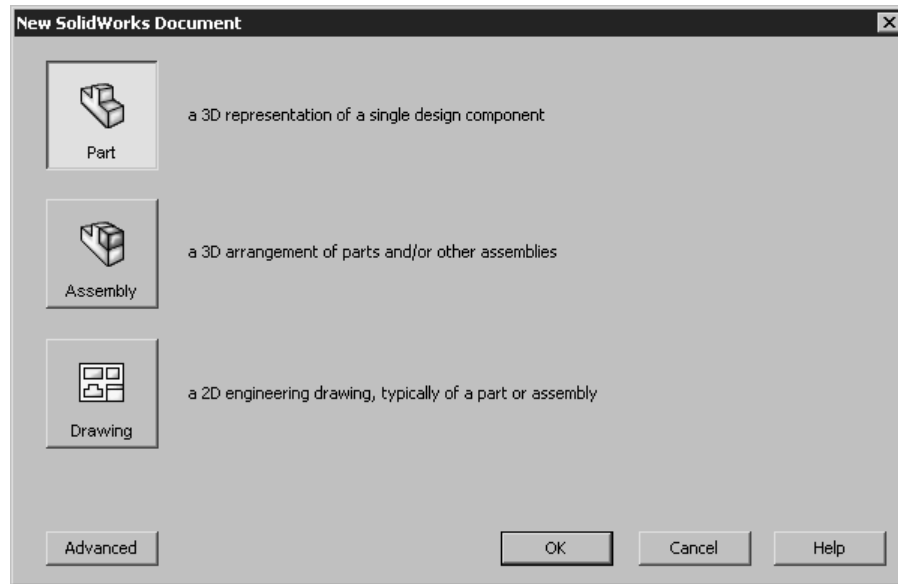

Figure 2-54 The New SolidWorks Document dialog box
2. Choose the **New Document** option from the **Getting Started** rollout of the **SolidWorks Resources** task pane; the **New SolidWorks Document** dialog box is displayed, as shown in Figure 2-54.